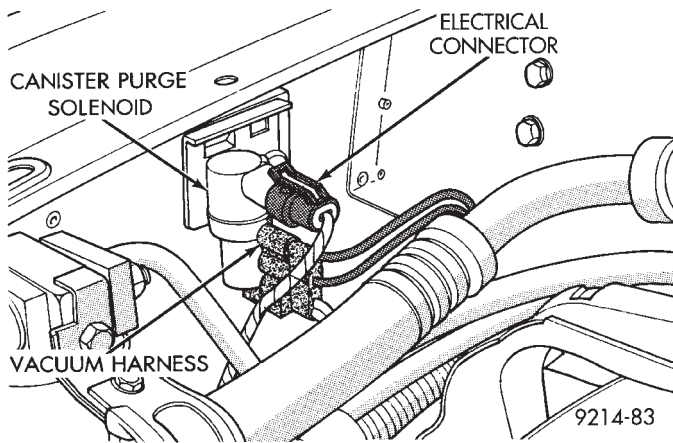

Fig. 7 Canister Purge Solenoid
(9) Verify the electrical connector is attached to the Purge Solenoid (Fig. 7) and not damaged.
(10) Verify the vacuum connection at the purge solenoid is secure and not leaking (Fig. 7).